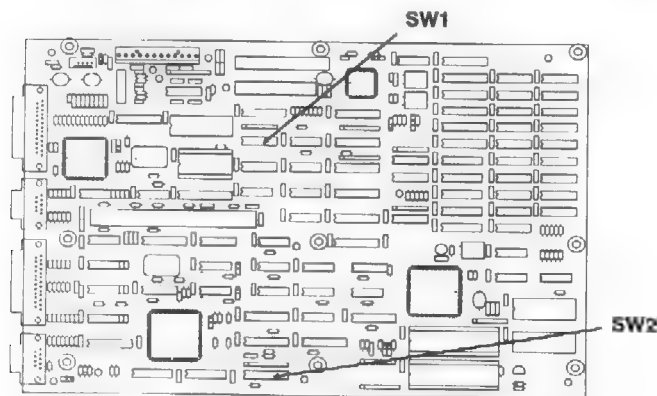

Figure 4. Switch Bank SW1 and SW2 Locations
5. Set switch 6 in switch bank SW2 and all the switches in SW1 as shown in Table 2 to enable the diskette drive controller and indicate the drive type and capacity. Refer to Figure 4 for the location of SW2 and SW1.